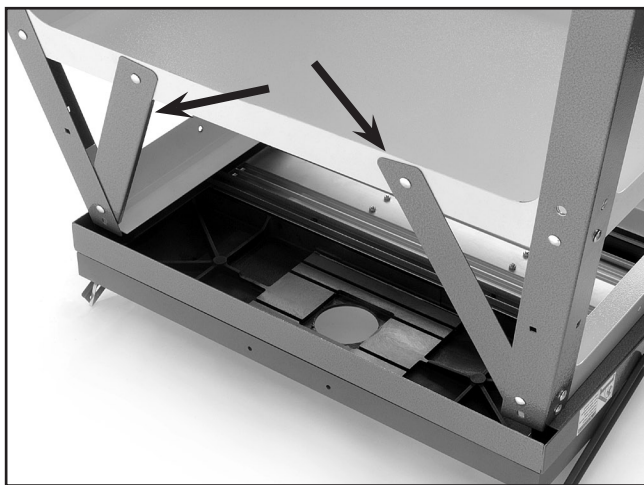

Figure 7. Table diagonal support positions.
3. Secure the diagonal supports (**Figure 7**) to the stand legs and the tray with 4 carriage bolts, 4 flat washers, 4 lock washers, and 4 hex nuts.